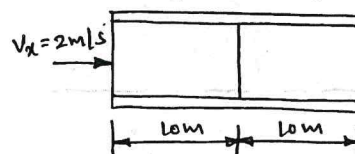

Fig.Q8(b)
b. For the smooth pipe shown in Fig.Q8(b), with uniform c/s of  $1 \text{ m}^2$ . Determine the flow velocities at the centre and right end, knowing the velocity at the left is  $V_x = 2 \text{ m/s}$ .